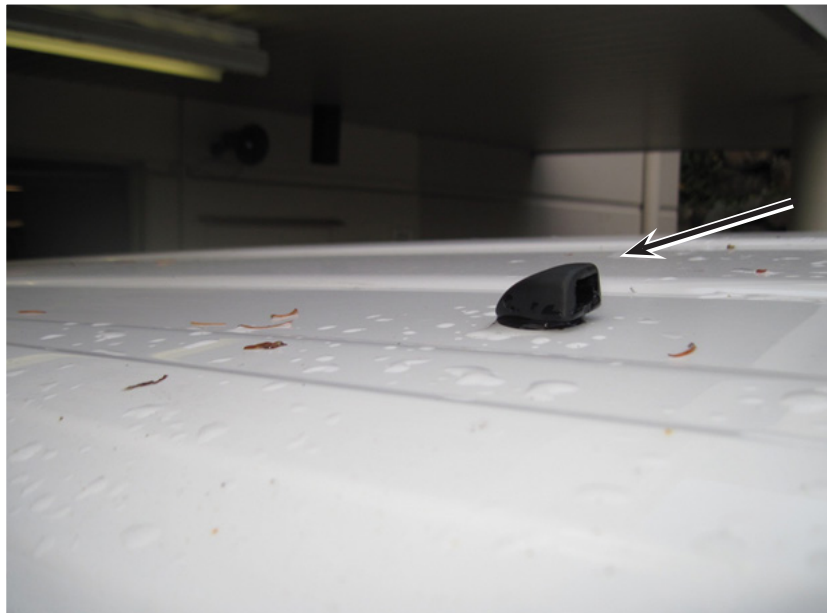

Figure 78. Insert Filter Vent from Top of Van
6. Insert the Filter Vent (P/N 000-052-009) from the top of the van into the drilled hole, and position the outlet towards the back of the van (see Figure 78).